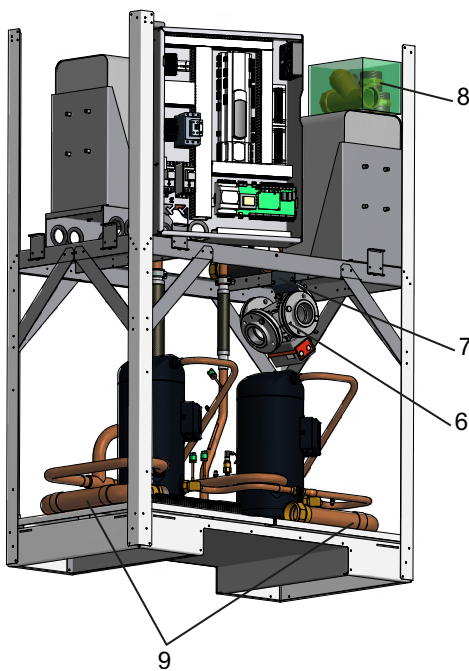
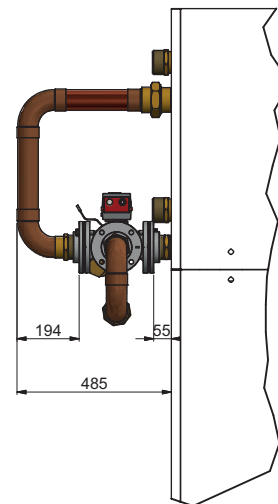

Fig. 7.1:
Fig. 7.2:
The hydraulic 4-way reversing valve (6) preassembled with the actuator is fixed on a transport plate (7) inside the unit with its threaded flanges (see Fig. 7.1 on page 6). After dismantling the hydraulic 4-way reversing valve from the device compartment, the transport plate (7) must be removed. The threaded flanges of the 4-way reversing valve must be loosened. The connections elements and the flange gaskets are placed, together with the protective filter in the accessory box (8), on the plate heat exchanger. Two preassembled pipe assemblies (9) are placed on the baseplate of the heat pump. These pipe assemblies must be connected with the threaded flanges as shown in Fig. 7.2 on page 6.
The clearances shown in Fig. 7.2 on page 6 must be achieved with the sealing process between the double nipple and threaded flange on the heat pump on the one hand, and between the "heating water flow" pipe assembly and threaded flange on the other. When the required installation position is achieved, the flanges with the accompanying seals must be connected with the hydraulic 4-way reversing valve using screws, washers and spring washers.